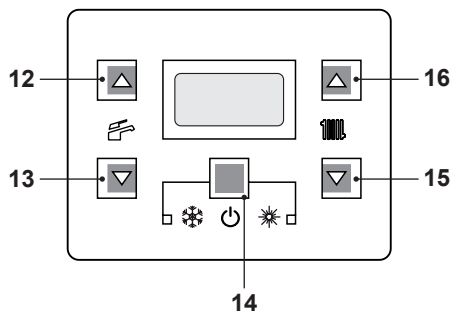
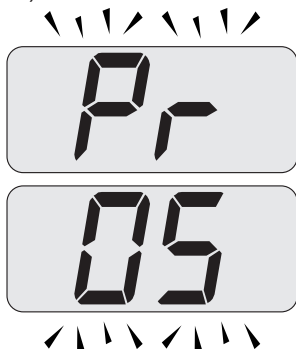

Fig. 8.3
Fig. 8.5
- Enter in "programming mode" by pressing keys 14 - 15 - 16 (Fig. 8.3) for 10 seconds at the same time until the letters **Pr** that alternate with code **01** are displayed on the LCD display, indicating that "parameter 01" (Fig. 8.4) has been activated.
- Press keys 14 and 16 (Fig. 8.3) at the same time until the value of parameter 05 (00=G20) is displayed on the LCD display (Fig. 8.6).
- Scroll the various parameters using keys 15 or 16 until the letters **Pr** that alternate with code **05** are displayed on the LCD display, indicating that "parameter 05" (Fig. 8.5) has been activated.
- By pressing key 16 three times, it is possible to change the value of parameter 05 from **00**=G20 to **05**=G31, which is ok for LPG gas.
- By pressing key 14 (Fig. 8.3) confirmation of the inserted value is obtained.
- Press keys 14 and 15 (Fig. 8.3) at the same time to exit without changing the value (return to the parameters list Fig. 8.5).
- Press keys 14 - 15 - 16 (Fig. 8.3) at the same time for 10 seconds to exit the "programming mode".